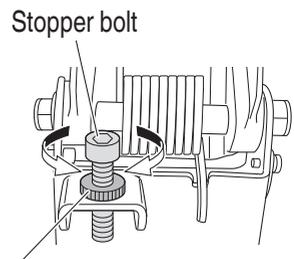

Fig. 11
6. Adjusting the cutting depth (**Fig. 11**)